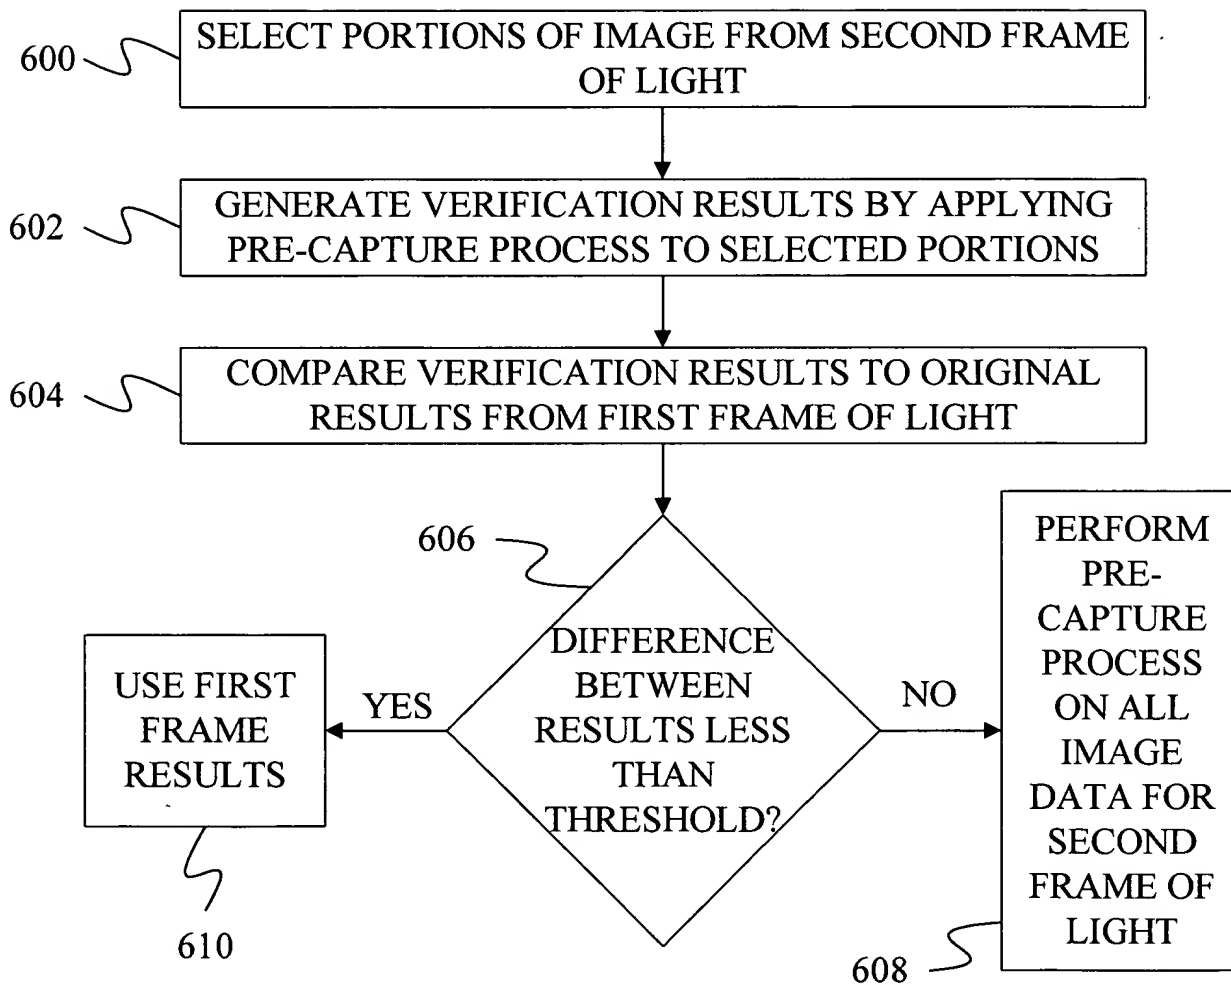

FIG. 6
FIG. 6 is a flowchart illustrating a process for verifying image results. The process begins with selecting portions of an image from a second frame of light (600). This is followed by generating verification results by applying a pre-capture process to the selected portions (602). The verification results are then compared to the original results from the first frame of light (604). A decision is made based on whether the difference between the results is less than a threshold (606). If the difference is less than the threshold (YES), the first frame results are used (610). If the difference is not less than the threshold (NO), the pre-capture process is performed on all image data for the second frame of light (608).